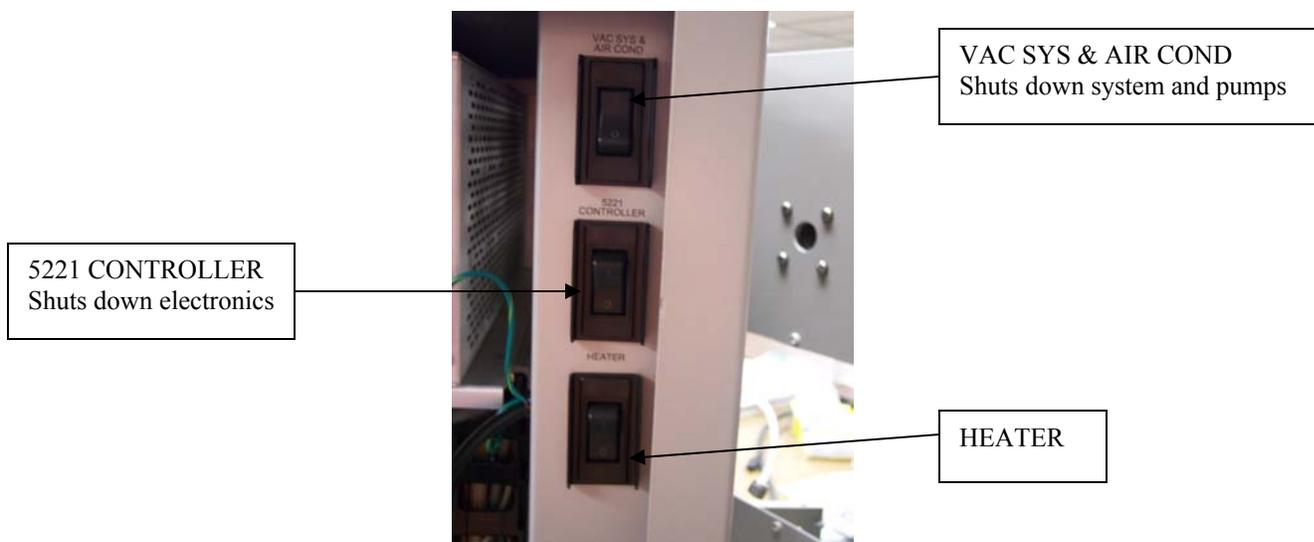

Figure 2: Enclosure Switches
9. Turn off the pumps via the *Vac System & AC* switch visible in Figure 2 below.
10. Turn off the *Heater* switch also visible in Figure 2.